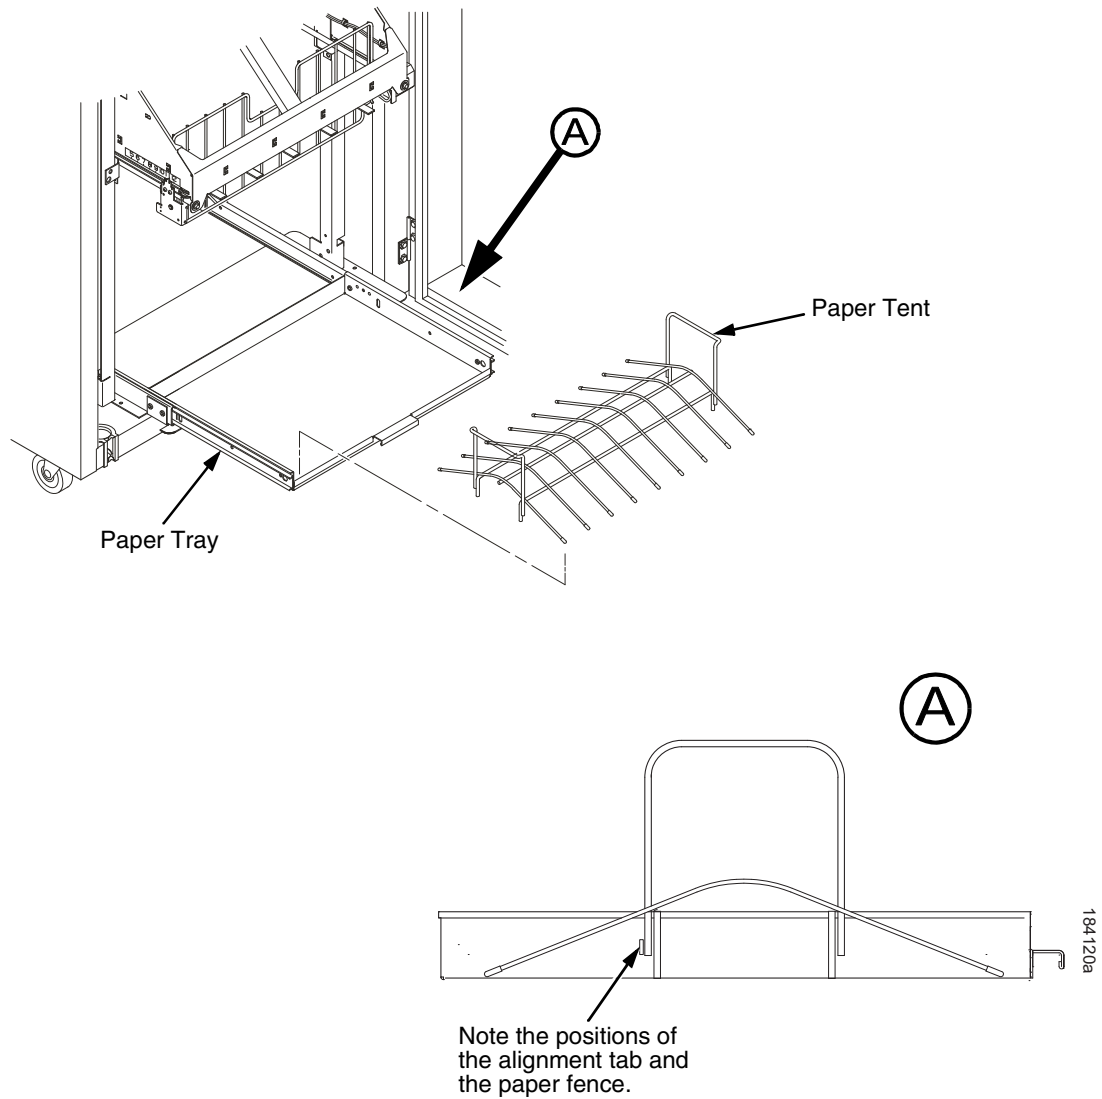

Figure 91. Paper Tent
34. If the paper you will use is not wider than 15.5 inches (39.5 cm), pull out the paper tray and install the paper tent. (Figure 91.) If the paper is wider than 15.5 inches (39.5 cm) leave the paper tent out of the printer